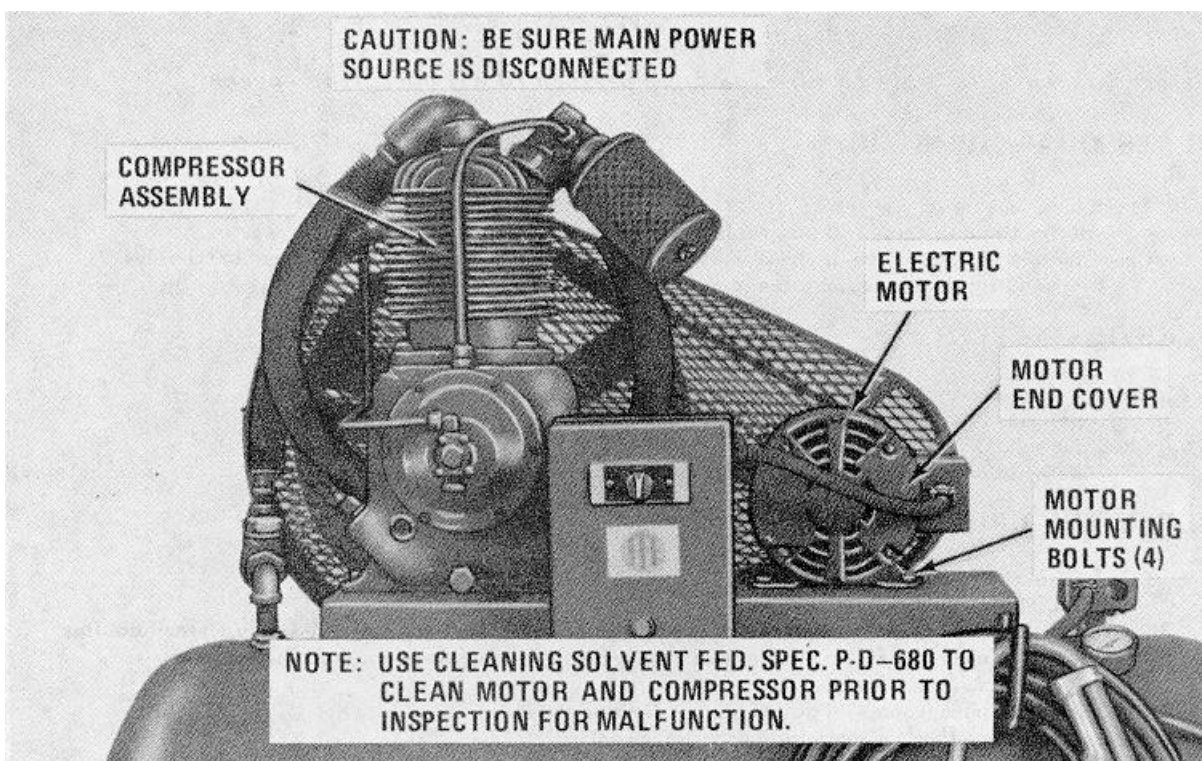

Figure 4-4. Electric motor and compressor assembly, removal and installation.
**a. Removal.** Refer to figure 4-4 and remove electric motor as follows:
- (1) Remove attaching hardware and remove V-belt guard.
- (2) Tag and disconnect electrical leads.
- (3) Remove motor mounting bolts.
- (4) Remove V-belts from motor pulley.
- (5) Remove electric motor assembly.
**b. Installation.** Refer to figure 4-4 and install electric motor as follows:
- (1) Place electric motor in position and loosely install mounting bolts.
- (2) Install and adjust V-belt tension as described in paragraph 4-14 below.
- (3) Install V-belt guard and tighten attaching hardware securely.
- (4) Connect electrical leads.
**a. Removal.** Refer to figure 4-4 and remove the compressor assembly as follows:
- (2) Disconnect and remove aftercooler tube.
- (3) Remove compressor mounting bolts.
- (4) Remove V-belts from compressor flywheel and remove compressor assembly.
**b. Installation.** Refer to figure 4-4 and install the compressor assembly as follows:
(1) Position compressor assembly on tank and install mounting bolts after aligning flywheel with motor pulley and installing V-belts on pulleys.
(2) Tighten compressor mounting bolts.
(3) Install and connect aftercooler tube.
(4) Install V-belt guard and attaching hardware.